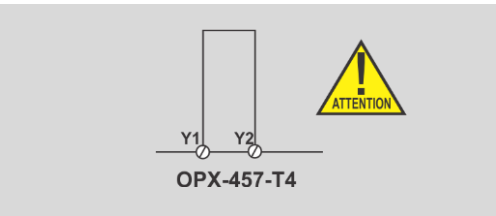

Figure 9 - Jumper for automatic reset mode
- ✓ Automatic OPX-457-T4. Fig 9